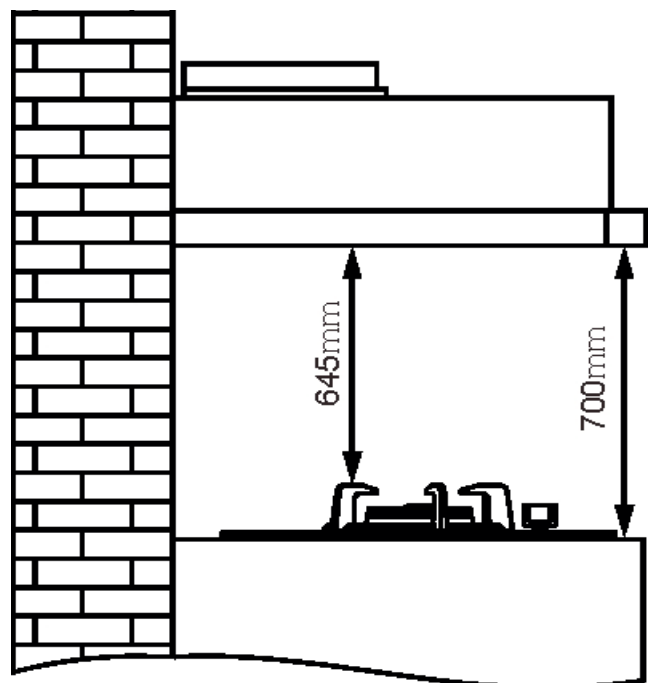

Fig.3
- i. There must be a distance of at least 700 mm between the hob and any wall cupboard. Regarding the minimum distance/height of the range hood, please refer to range hood installation manual (Fig.3-Fig.4).